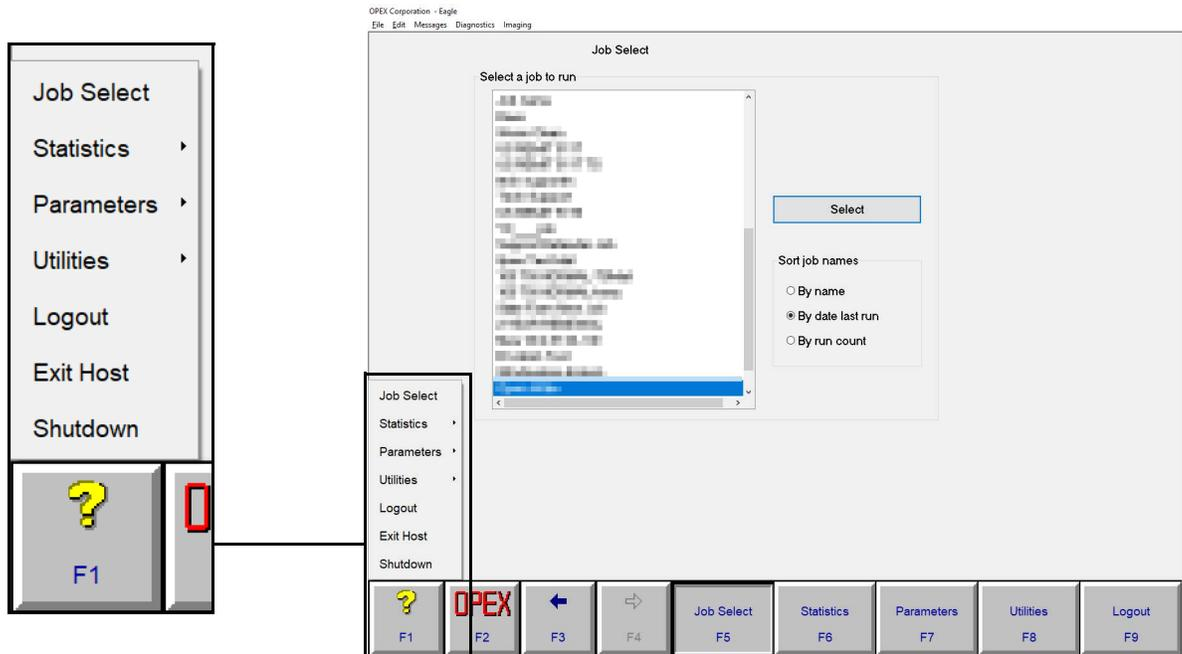

Figure 3-4: Exit options
1. Click **OPEX (F2)**. A menu appears listing several options, including the options for closing the Host software (Figure 3-4).